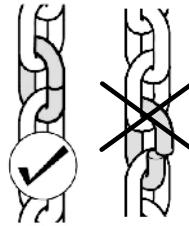

Figure 7
- The chain should be assembled and disassembled using special links. Once assembled, the edges of the link must come together completely and there must be no skew (fig. 7).